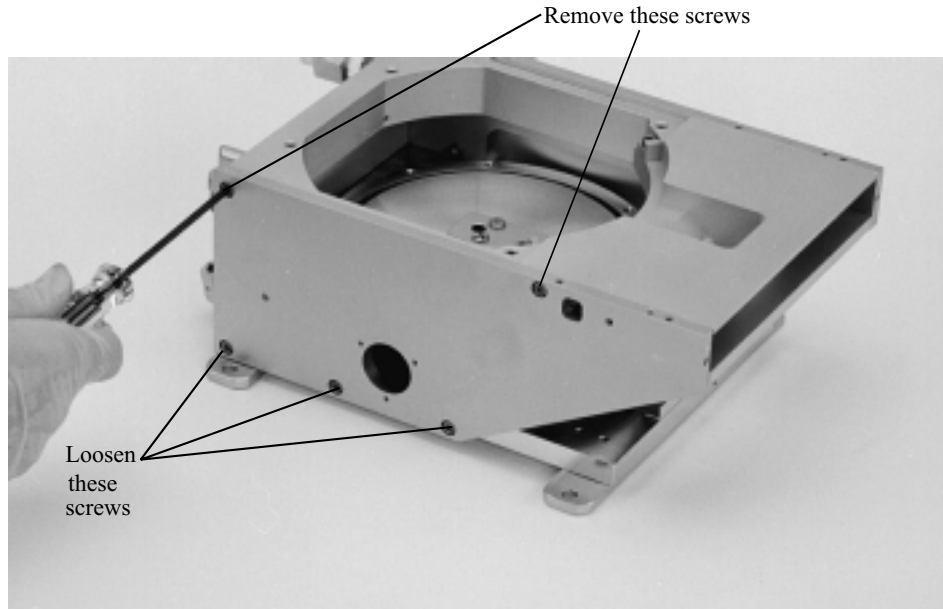

Figure 5-15. Removing the screws that secure the LH pole piece to the coil housing
Step 14: Remove the two 8-32 3/8" screws that secure the left-hand pole piece to the coil housing as shown in Figure 5-15. Then loosen the three screws that secure that pole piece to the source base plate.